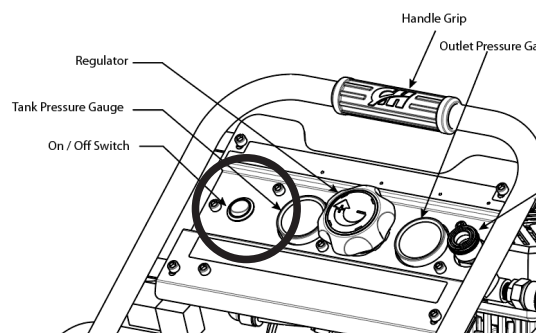

Figure 2
Note: The On / Off switch should be in the "Off" position when connecting or disconnecting the power cord from the electrical outlet. (Figure 2)
1. If the plug on the electrical cord of the unit is unfamiliar to you or will not fit your particular receptacle, Figure 2 will help you understand why by illustrating the different plugs and the voltages they are to be used with.